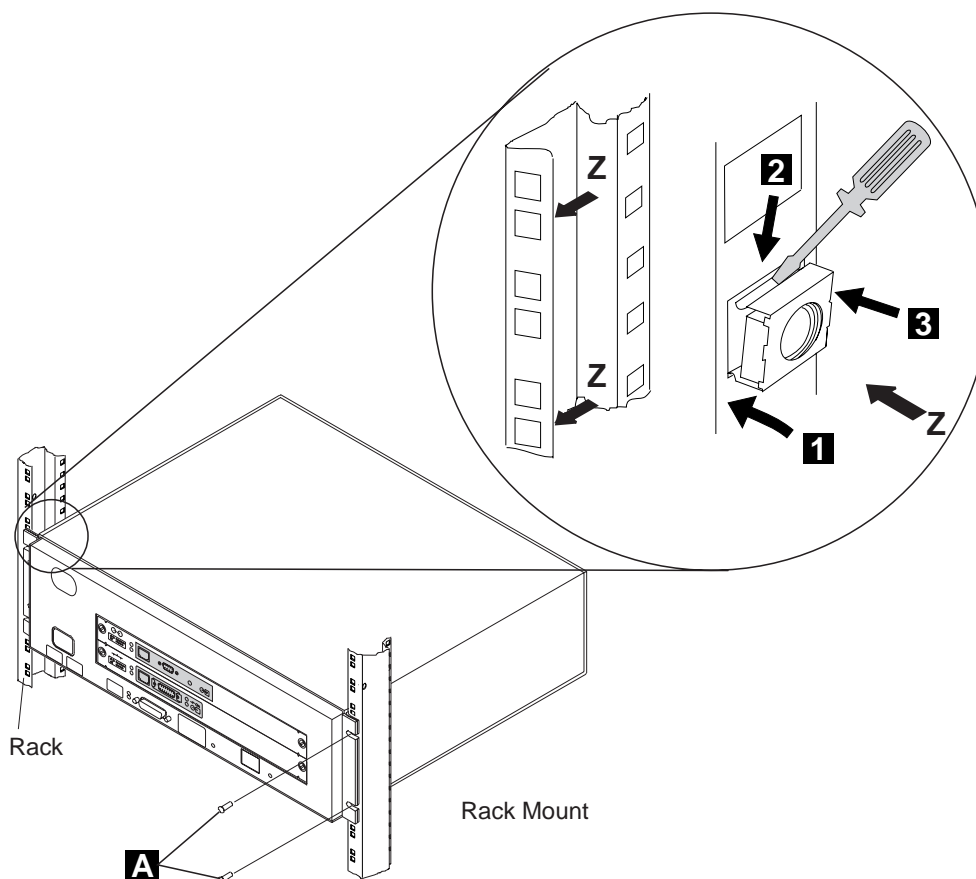

Figure 2-23. Captive Nuts and Ethernet Bridge Installation
- e. \_\_\_\_ Install four captive nuts **3** (PN 58G5766) in the proper locations **Z**, refer to Figure 2-23 on page 2-20.